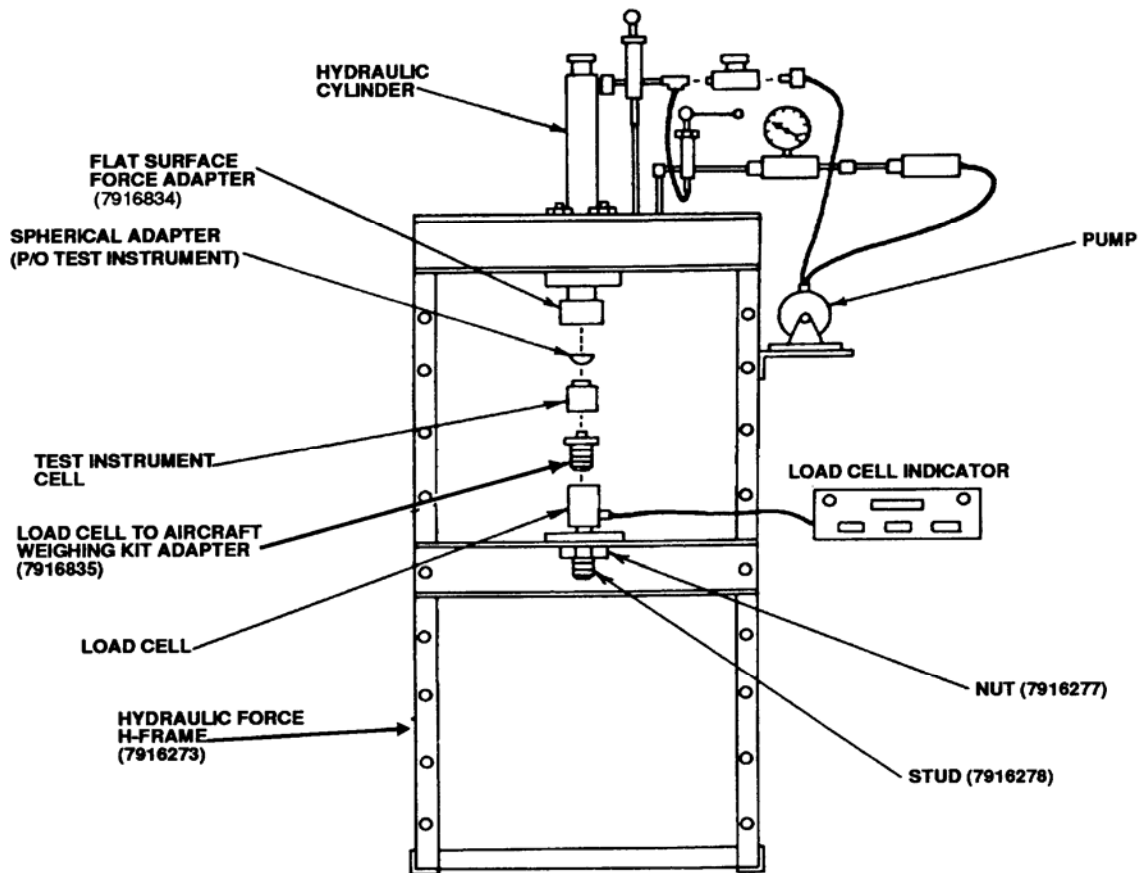

Figure 1. Aircraft weighing kit - equipment setup.
(1) Set power switch to 115 V, 60 Hz.
(2) Operate **BATTERY VOLTAGE** switch on indicator panel of TI and adjust **AC VOLTAGE ADJUST** control until pointer of balance meter indicates in green area of milliammeter scale.
d. Setup equipment as shown in figure 1 using load cell No. 2 and TI cell No. 1.